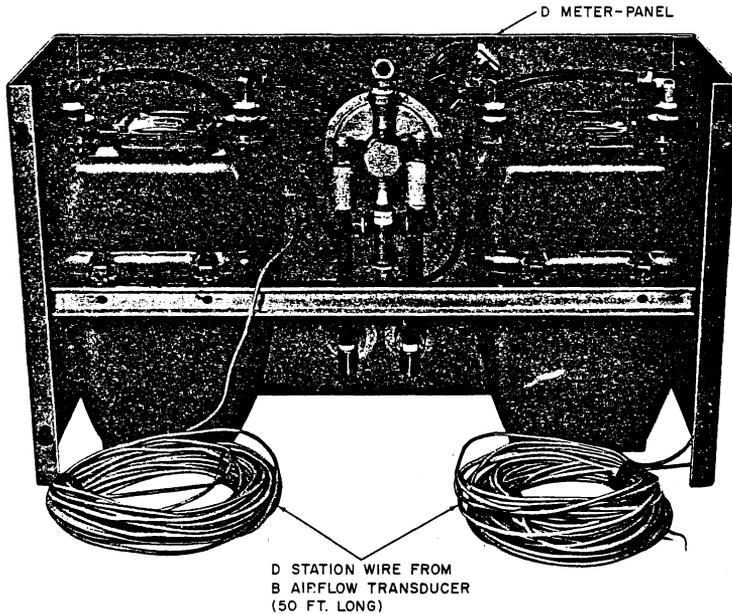

Fig. 9—D Meter-Panel—Rear View
5.09 For *D* meter-panel installations, connect the *D* station wire from the *B* airflow transducer to the assigned terminals of a 66M1-50 connecting block or equivalent, which is associated with CPMS (Fig. 9).